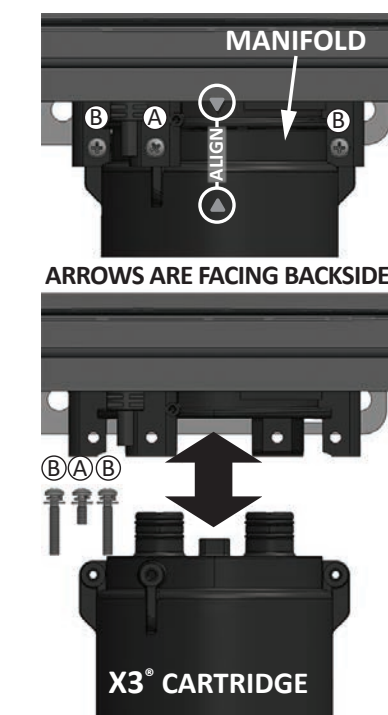

Figure 38 - X3® Cartridge Installation
NOTICE: The X3® cartridge is keyed to only install in one direction. Align the ▲ on the X3® cartridge with the ▼ on the manifold (arrows will be back facing for TM series heaters). When inserting the X3® cartridge, push up until the screw holes align. The bypass cartridge is not keyed and will install in either direction. Some resistance is normal. See Figure 38 for reference.
4 Remove the two (B) screws and the one (A) screw securing the X3® Cartridge to the manifold located on the underside of the water heater cabinet. Set the screws aside in a safe place for re-installation. Note the order of the screws when removing them. Reference Figure 38.